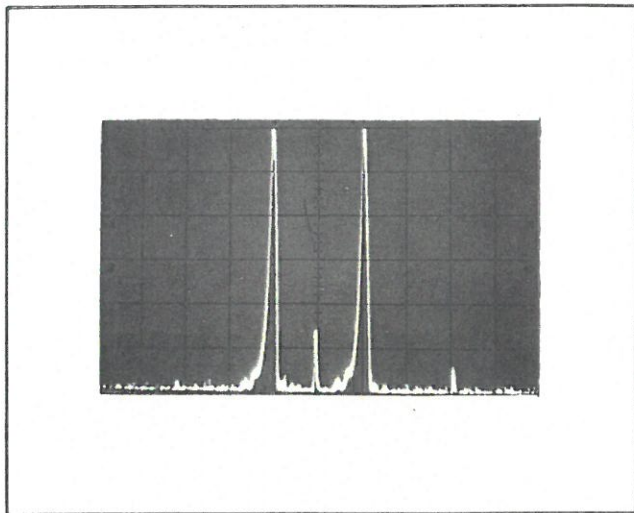

Figure 6. Balanced Modulator Output
20. Figure 6 shows the output of a typical hp Model 10514A, B Mixer when used as a balanced modulator, displayed on a hp Model 851A/8551A Spectrum Analyzer. A 50 MHz signal is being modulated by a 1 MHz signal. Vertical scale is 10 dB/cm. Horizontal scale is 1 MHz/cm. The 50 MHz signal is centered on the display and is shown to be more than 40 dB down from the sideband output.